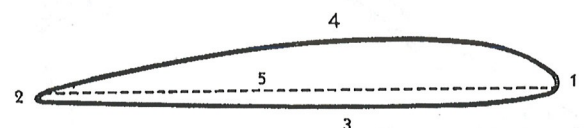

Figure 3—Blade Cross Section
(1) PROPELLER DIAMETER.—The diameter of the circle swept by the blade tips, or the distance between two opposed tips.
(2) LEADING EDGE.—The edge of the rotating blade which first strikes the air. (See figure 3.)
(3) TRAILING EDGE.—Opposite to leading edge. (See figure 3.)
(4) THRUST FACE.—The flat surface of the blade which first strikes the air. (See figure 3.)
(5) CAMBERED SIDE.—The surface of the blade opposite the thrust face. (See figure 3.)
(6) TRACK.—The relationship of like points on all blades of a propeller to follow in the same plane perpendicular to the axis of rotation.
(7) BLADE ANGLE.—The angle between the chord of the propeller blade and the plane of rotation. (See figure 3.) Where a flat surface on the thrust face is encountered, this surface is accepted as being parallel with the chord. Otherwise, a template is used on the thrust face at a selected station, to measure the blade angle.
(8) PROPELLER PITCH.